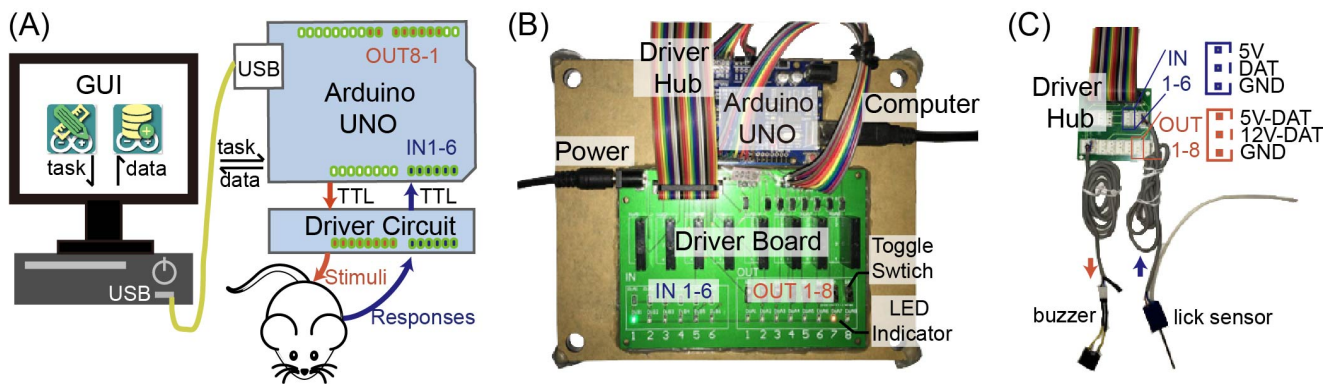

Figure 1
Figure 1. Diagram and hardware of the ArControl's electronic circuit. (A) Overview of the electronic circuit. Arduino is the core controller detects animal response, sends simulations via digital pin, and logs data to the host computer. ArControl supports 6 input and 8 output digital channels. (B) The hardware of ArControl: Arduino Uno R3, the driver circuit for voltage conversion. (C) The driver hub provides slots for terminal devices. Sensors can work at 5V, and stimulators can alternatively work at 5/12V.
Supplementary Figure 1. The data collection from ArControl. (A) The main window of ArControl-Recorder. (B) The serial monitor window of ArControl-Recorder. Numbers after colon represent the beginning and duration time in milliseconds. (C) A matched segment extracted from the data file.